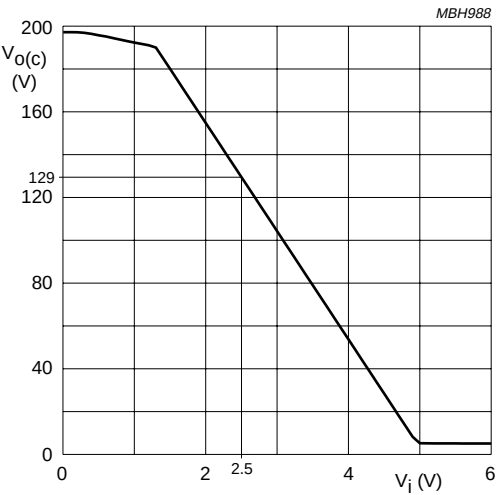

Fig.5 Typical DC-to-DC transfer of  $V_i$  to  $V_{o(c)}$ .
1. See also Fig.5 for the typical DC-to-DC transfer of  $V_i$  to  $V_{O(C)}$ .